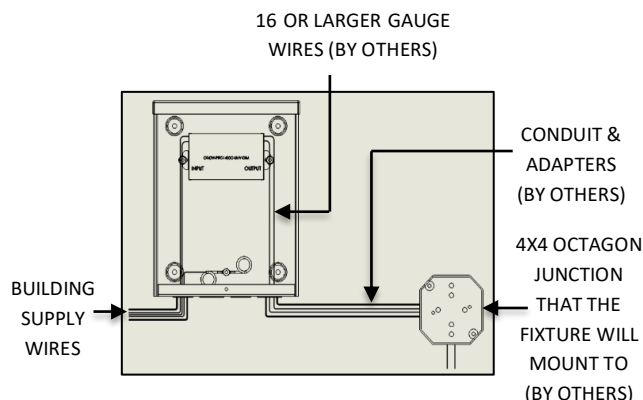

FIG. 9 – WIRE CONNECTION FROM
5. Depending upon the size of the fixture (see WIRE DIAGRAM TABLE on Page 5 for correct Wire Diagram) run (1) set of positive and negative 16 or larger gauge wire (by others) or (2) set of positive and negative 16 or larger gauge wire (by others) from the REMOTE DRIVER HOUSING to the junction box the fixture will mount to (by others). Inside the REMOTE DRIVER HOUSING, connect:
- Dimming wires as shown on the driver in FIG. 9 and FIG. 10 below.